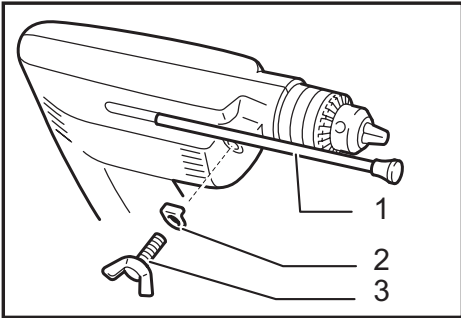

Fig.3
► Fig.3: 1. Depth gauge 2. Washer 3. Clamp screw